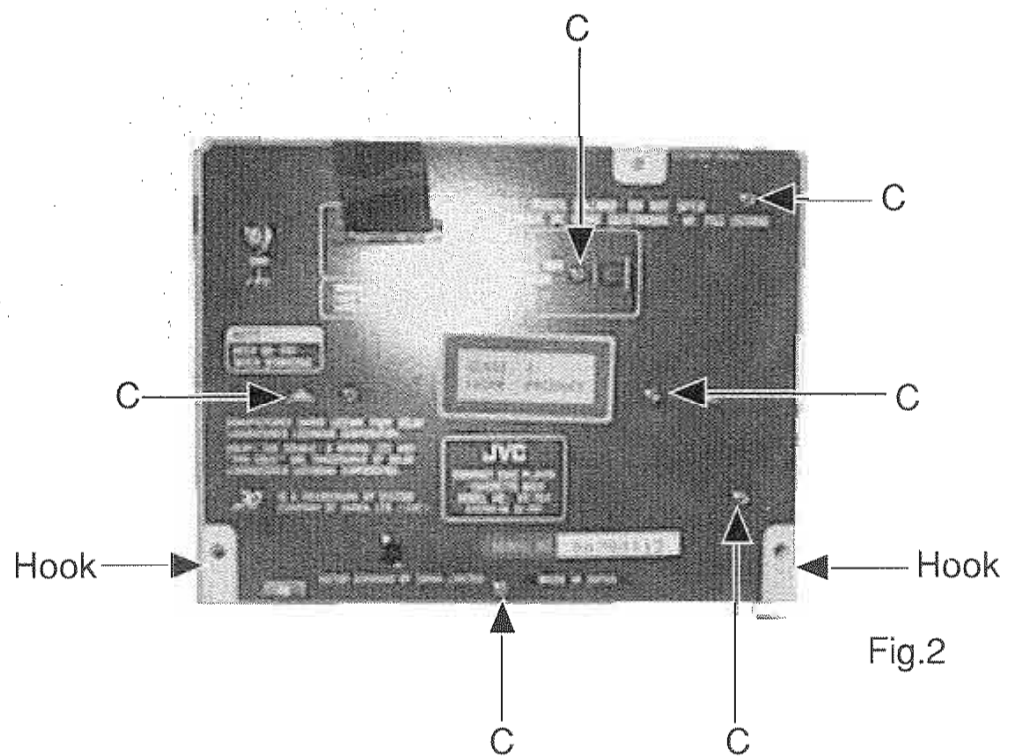

Fig.2
1. Remove 6 screws(C) fastening rear panel(Fig.2).